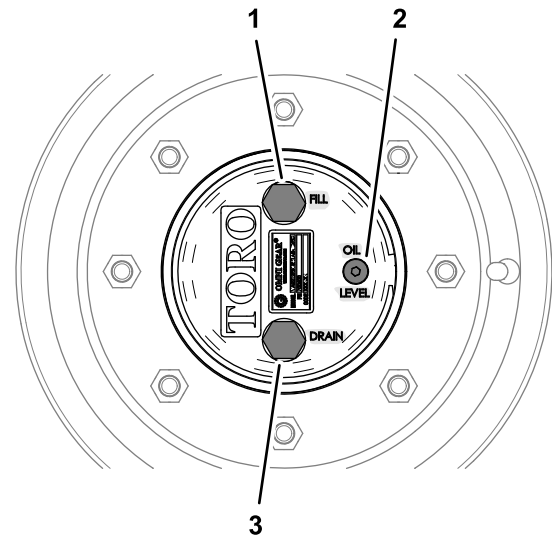

Figure 93
1. With the machine on a level surface, position a wheel so that the fill plug is at the highest (12 o'clock) position and the drain plug is at the lowest (6 o'clock) position (Figure 93).
1. With the machine on a level surface, position a wheel so that the fill plug is at the highest (12 o'clock) position and the drain plug is at the lowest (6 o'clock) position; refer to Figure 93 in Checking the Planetary-Gear-Drive Lubricant (page 67).